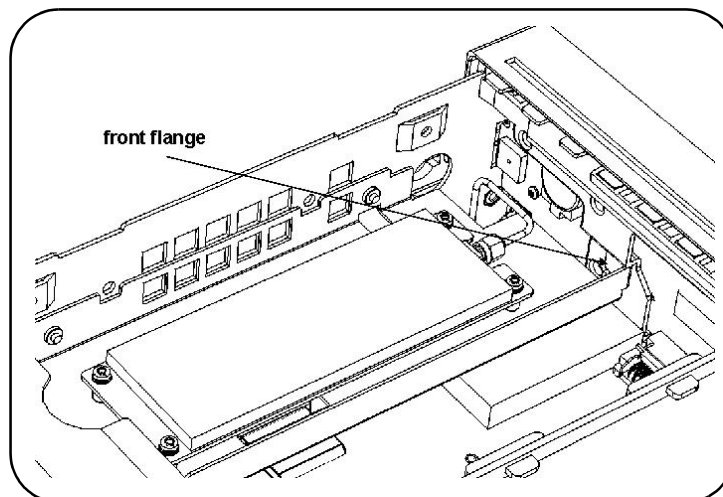

Figure 15. Front Flange Resting On Plastic Tab.
21. Set the Channel 2 assembly down on top of the motherboard so that the female SMA edge connector is near the male SMA connector of the semi-rigid cable installed on the front panel assembly (see Figure 15).
The front flange on the right-front of the Channel 2 assembly bracket must rest on the tab protruding from the front panel (see Figure 15).